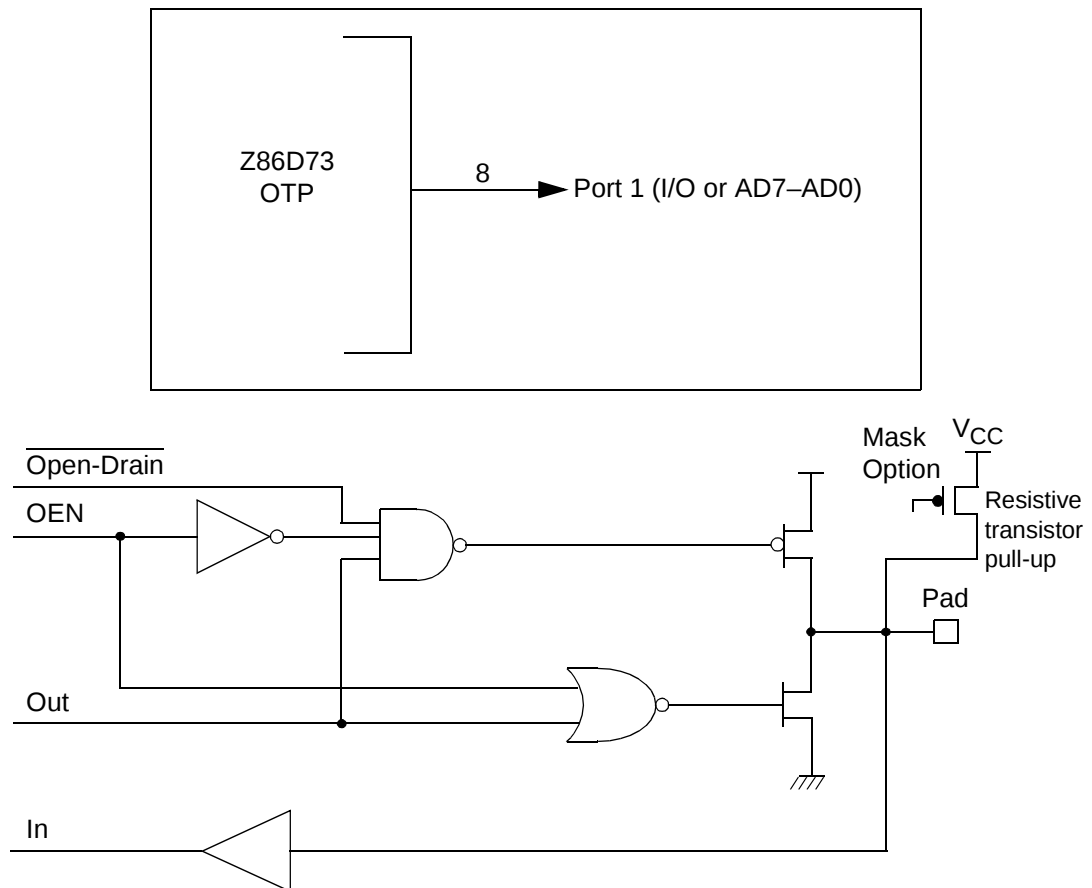

Figure 11. Port 1 Configuration
Port 1 (see Figure 11) is a multiplexed Address (A7–A0) and Data (D7–D0), CMOS-compatible port. Port 1 is dedicated to the ZiLOG ZBus®-compatible memory interface. The operations of Port 1 are supported by the Address Strobe ($\overline{AS}$) and Data Strobe ($\overline{DS}$) lines and by the Read/Write (R/W) and Data Memory (DM) control lines. Data memory read/write operations are done through this port. If more than 256 external locations are required, Port 0 outputs the additional lines.